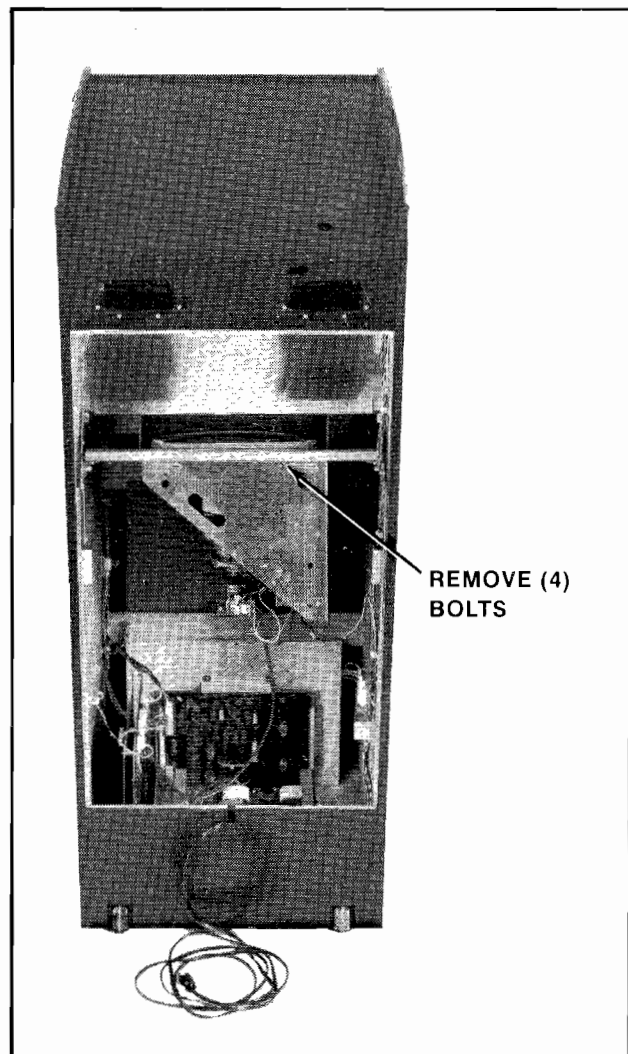

Figure 4-7 Removing Monitor — Upright
1. **UPRIGHT MODEL:** See Figure 4-7.
The monitor mounting channels slide on top of and against two metal guides mounted to the cabinet's right and left sides. The monitor is removed by sliding it out the back of the cabinet. See Figure 4-7.